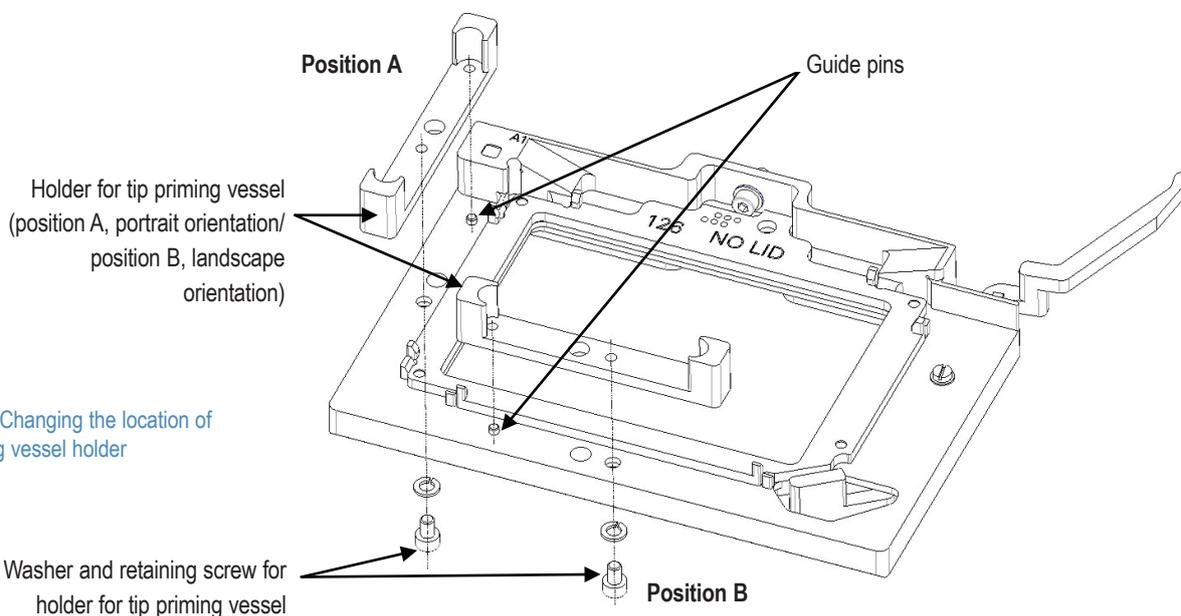

Figure 2–17 Changing the location of the tip priming vessel holder
1. Remove the holder for the tip priming vessel (Figure 2–17) by unfastening the holder retaining screw (Figure 2–17) fitted with a washer.
2. Place the holder for the tip priming vessel in the new position so that the guide pin fits in its hole (Figure 2–17). The guide pin controls that the holder is placed correctly. Then fasten the holder retaining screw fitted with a washer.